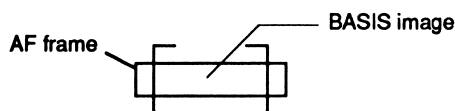

Figure 2
2. Illuminating the AF sensor unit with a pen light to look in the lens can see the AF frame and a BASIS image as shown in Figure 2.